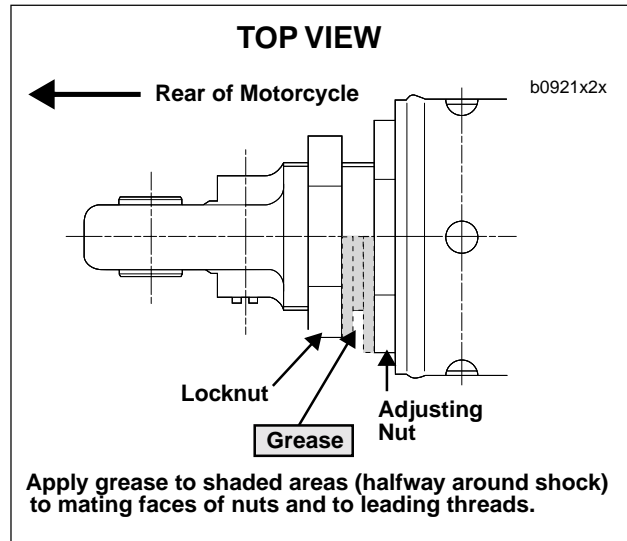

Figure 1-32. Locknut Tightening Procedure
3. See Figure 1-32. When finished, apply wheel bearing grease halfway around the shock (180 degrees) to the mating faces of the locknut and adjuster nut and the first few threads on the aluminum body leading to the adjuster nut.